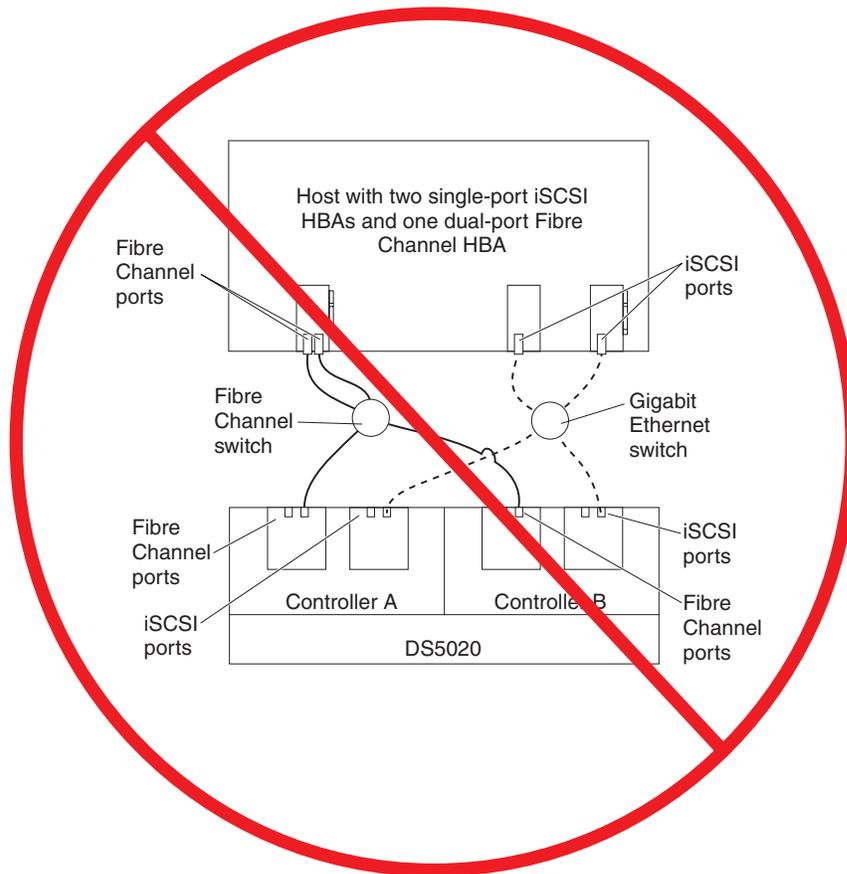

Figure 64. Example of an incorrect configuration: Single-host, iSCSI and Fibre Channel
- Example of an incorrect configuration: Single-host, iSCSI and Fibre Channel, as shown in Figure 64 on page 90
Figure 64 shows an incorrect configuration of a single host with both iSCSI and Fibre Channel connections.
**Important:** Do not cable the storage subsystem and host systems as shown in Figure 64. A storage subsystem with the incorrect storage topology might appear to be functional, but incorrect cabling can potentially have unpredictable results.